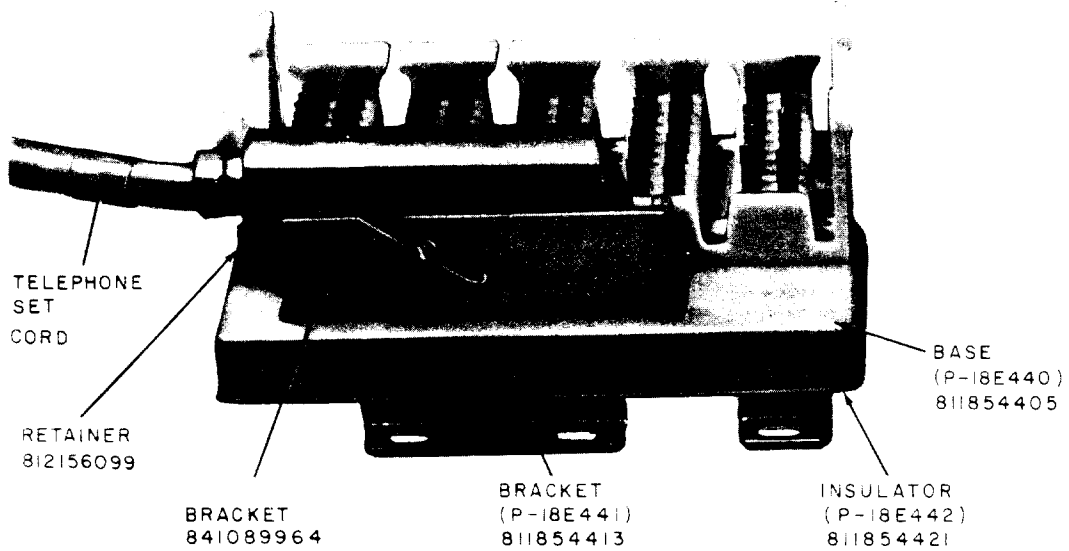

Fig. 2—66E4-25 Connecting Block
2.05 The 66E4-25 connecting block (Fig. 2) is equipped with a molded plastic base without cable trough or cover; it incorporates a mounting bracket which allows mounting in commercial type underfloor duct service fittings. Cover for 66E4-25 connecting block must be furnished by customer and should be similar to that shown in Fig. 5.